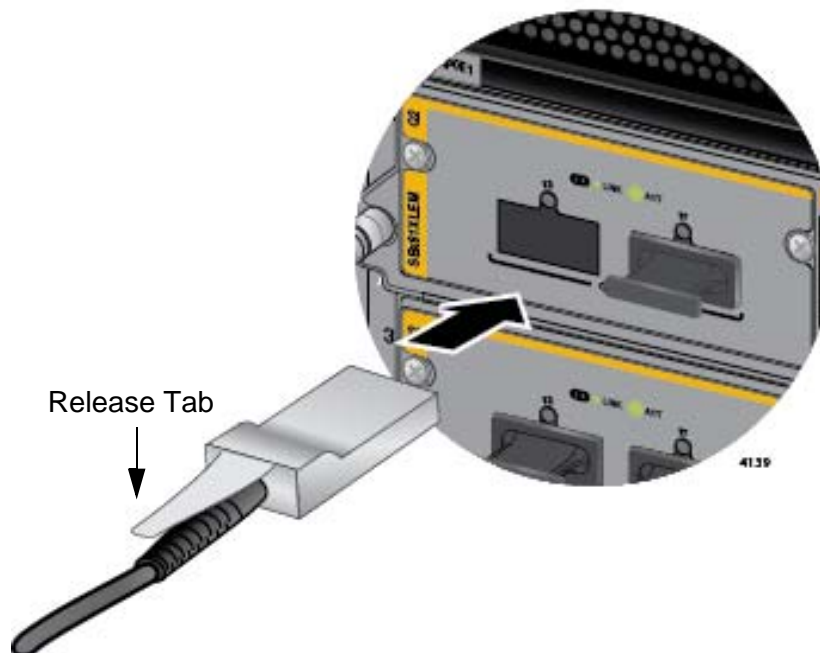

Figure 114. Sliding the AT-QSFPCU Cable into the Slot
2. Orient the connector on the AT-QSFPCU Cable with the release tab on top and slide it into the slot until it clicks into place. Refer to Figure 114 on page 188.